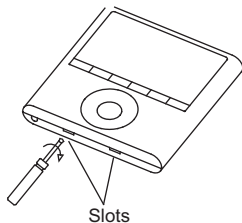

Fig. 7 – Slots
2. Remove the upper part of the wire controller (see Fig. 7).